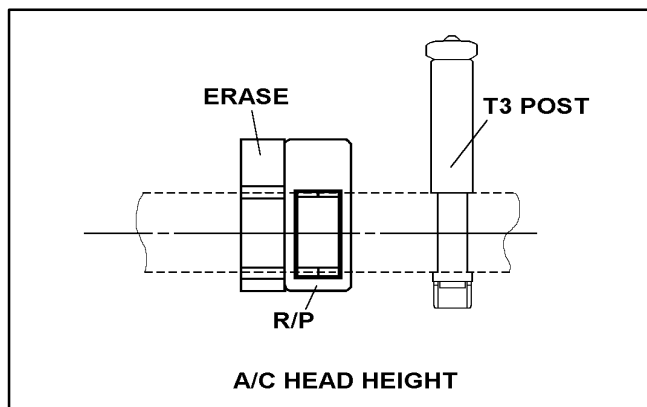

Figure 3-13-1
2. Perform the Height and X-value adjustment under the screw (G) tighten completely.
3. Be careful the tape damage at T3 Post, when adjust tilt of A/C Head. (refer to figure 3-13-1)